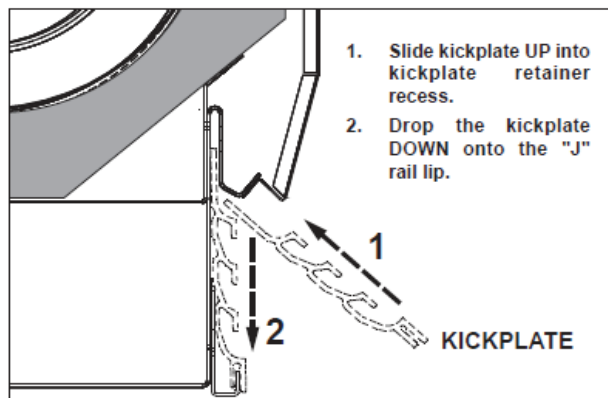

Fig. 7: Kickplate installation
2. Insert top of kickplate into the kickplate retainer. Slide the kickplate up into the retainer, then down onto the "J" rail (Fig. 7). Be certain that the bottom of the kickplate is fitted over extruding "lip" of the "J" rail.